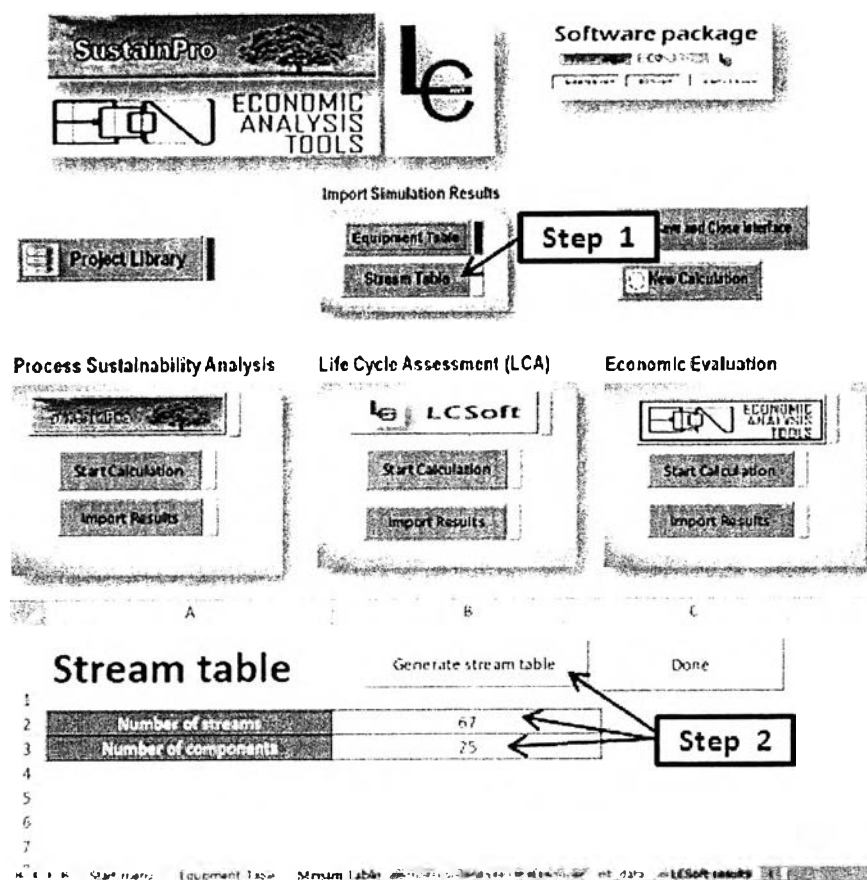

Figure B.7: Steps to generate stream table
Step 1: Click “Stream table” button and “Stream table” page will appear as shown in Figure B.7.
Step 2: Enter number of stream (67), and number of component (25) then click “Generate stream table”.